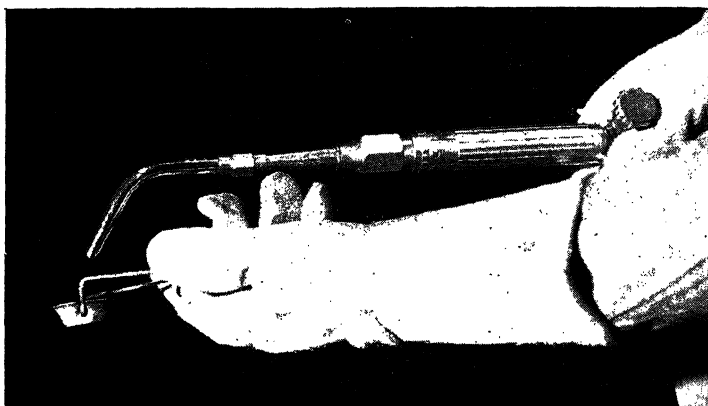

FIG. 27.—Lighting torch. (*Courtesy of Linde Air Products Co.*)
**Lighting and Adjusting the Torch.**—With the pressures set at 2 lb. on each regulator, open the acetylene valve about one-half turn, and ignite the gas at the end of the tip with a friction lighter (Fig. 27). Then turn the acetylene on until the flame does not smoke or until it just leaves the tip (Fig. 28). Now turn the oxygen on slowly. The flame will brighten and draw down to the tip. Add oxygen until there is a white inner cone sur-